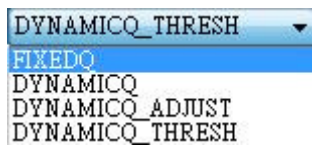

Figure 24
4. Inventory Algorithm: Allows the application to set the currently-active singulation algorithm, as figure 24. The option is as follows: